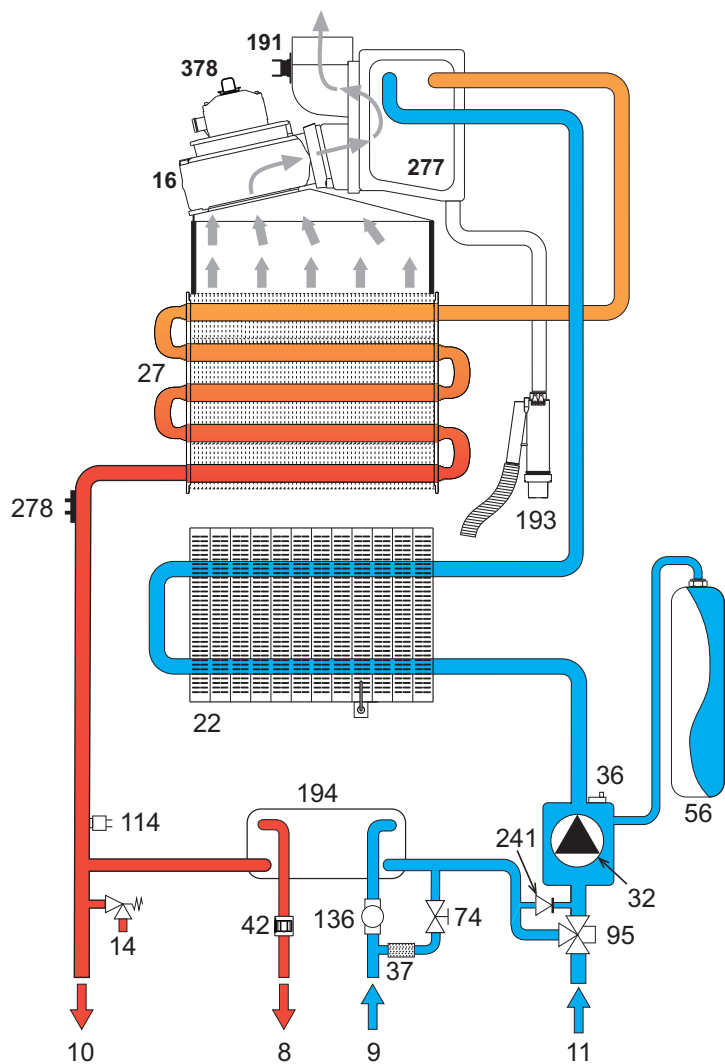

fig. 27- Heating circuit
**Table 9- Legend, fig. 26, fig. 27 and fig. 28**